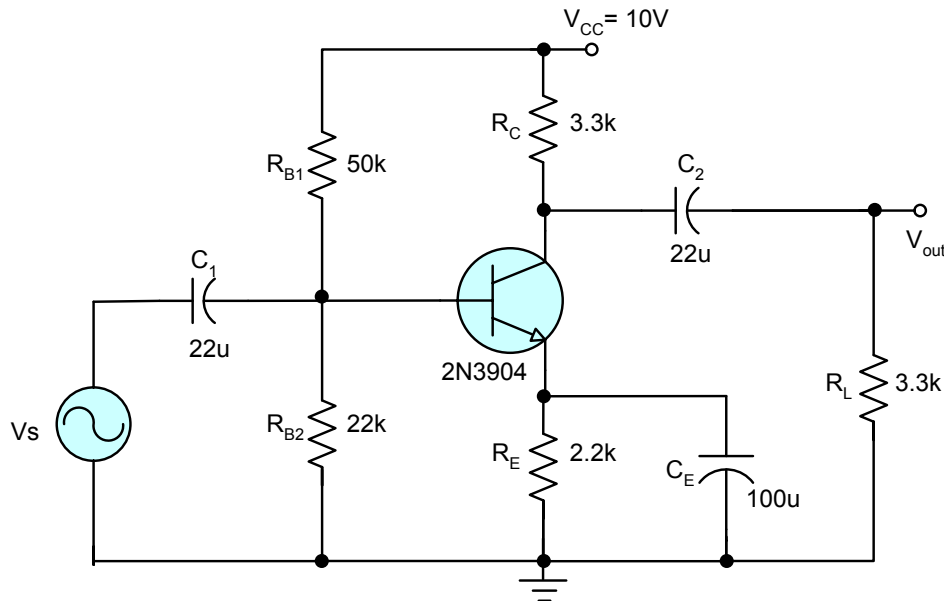

Figure 2
1. For the circuit shown in Figure 2 consider $\beta=75$. Calculate the dc components I_{BQ} and I_{CQ} , V_{CEQ} .
Figure 2, below shows the transistor configured as a common emitter amplifier. In this diagram, V_S is the ac signal source, and R_L is the load. V_{CC} is a dc power supply, which provides the transistor with the necessary power to amplify the ac signal. Resistors R_1 and R_2 are used to establish the correct voltage at the base of the transistor, while resistors R_C , R_E are used to establish the overall gain of the amplifier. (See the text for more details.)
1. Wire the circuit as shown in Figure 2. The pin diagram for the 2N3904 transistor is shown in Figure 1.
Use Schematics to connect the circuit shown in Figure 2. Analyze the circuit by choosing *Analysis* → *Setup* → *Bias Point*. Run the simulation by choosing *Simulate* from the *Analysis* menu (See the results from examine output choosing from file Menu). Write all the results in the following table.
Use Schematics to draw the amplifier circuit in Figure 2. For source V_s use $VSIN$ from the *Get New Part* Menu. Double click the source and enter the values of peak voltage and frequency of 10mV and 1 KHz. Exactly follow the same procedure used in Lab. Write all the results in Table 2.